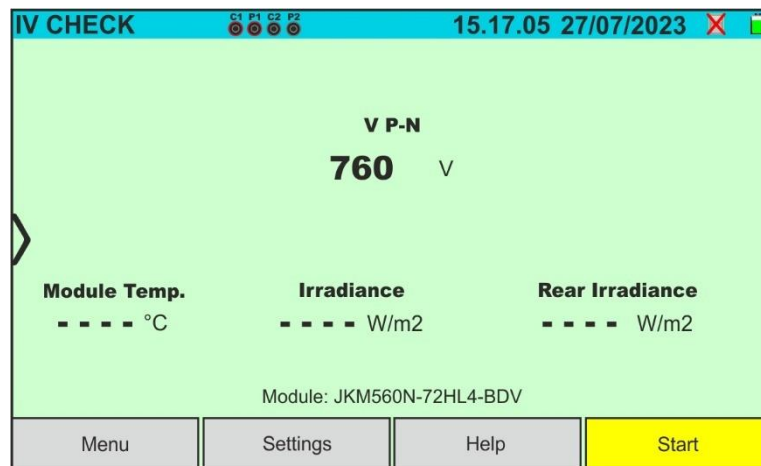

Fig. 59: Initial IVCK test screen without remote unit on Bifacial modules
8. In the case of **Bifacial** modules, the Fig. 59 screen is present on the display. The following parameters are shown: